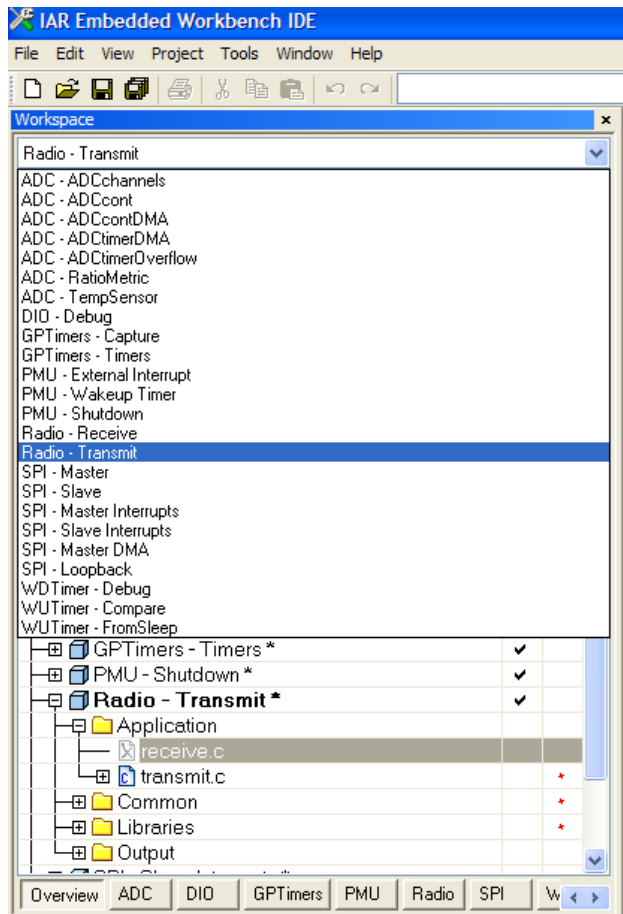

Figure 15. Selecting the Radio Transmit Example Program
- Radio transmit (see **Radio – Transmit** in Figure 15)
- Radio receive (see **Radio – Receive** in Figure 15)
1. Select the **Radio – Transmit** example program in the IAR Embedded Workbench as shown in Figure 15.